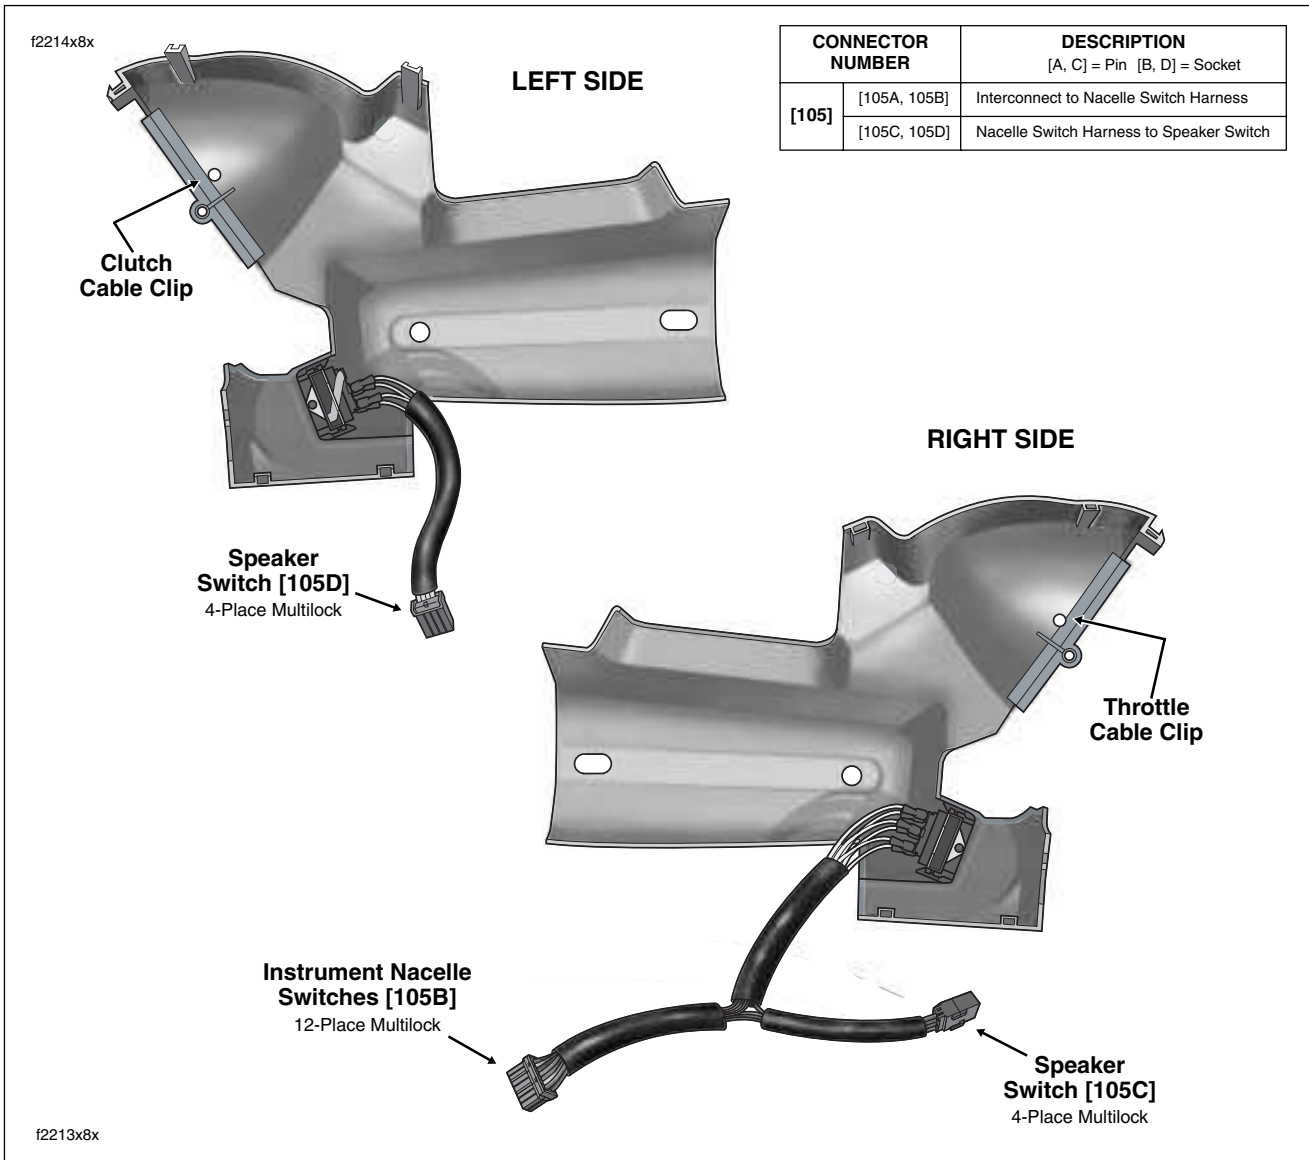

Figure 8-86. Instrument Nacelle Halves
- d. Unthread rubber boot from odometer reset switch, and while carefully removing left side instrument nacelle from motorcycle, pull odometer reset switch from hole. Move left side of nacelle to bench area leaving right side on motorcycle. See Figure 8-86.
- d. Remove two T40 TORX bolts (with flat washers) to release right side of instrument nacelle from upper and lower fork brackets. Move right side of nacelle to bench area leaving left side on motorcycle. See Figure 8-86.